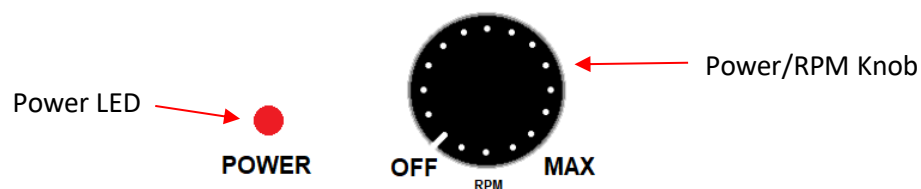

Fig. 17
Momentarily switch **ON** Power button (Fig. 17 below) by turning the RPM knob to check whether it's Power (Red) LED is lighted up. In event that the connection is reversed, the tester will not power up and the LEDs will not light up.
3. Switch **ON** the **POWER** button by turning the [Speed RPM] knob (Fig.17) to the right direction and observe the sparks generated. The intensity of the sparks can be increased or decreased by turning the knob clockwise or counter clockwise.